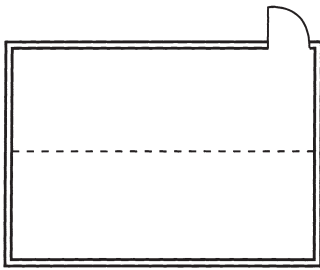

Fig. 32 - Center line
- Place a mark in the center of the floor at each end of the room. Snap a chalk line between the marks (Fig. 32).